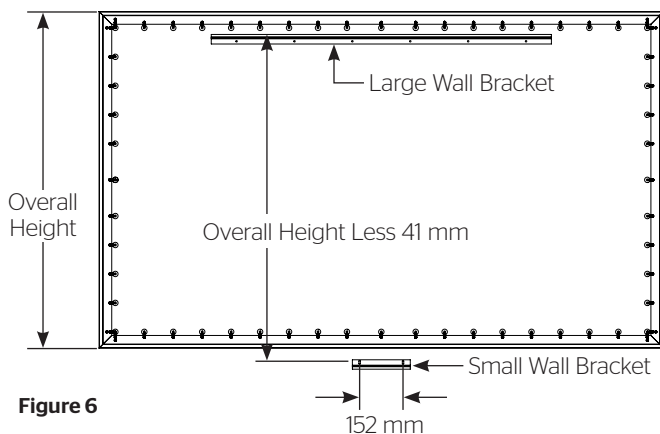

Figure 6
2. To install the lower wall bracket, you must measure the overall height of the screen frame and subtract 41 mm. Using that dimension, measure down from the top edge of the wall bracket and mark the wall for two screw holes. The holes should be centered within the frame and 6" apart. Refer to Figure 6.